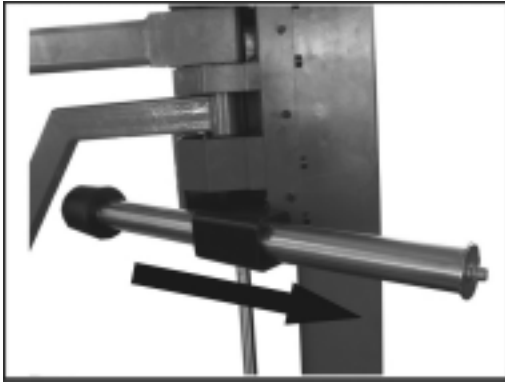

Fig.17
- Take out pressure bar and relevant fastening parts, brush lubricant on the parts, then assemble them as in fig.17.